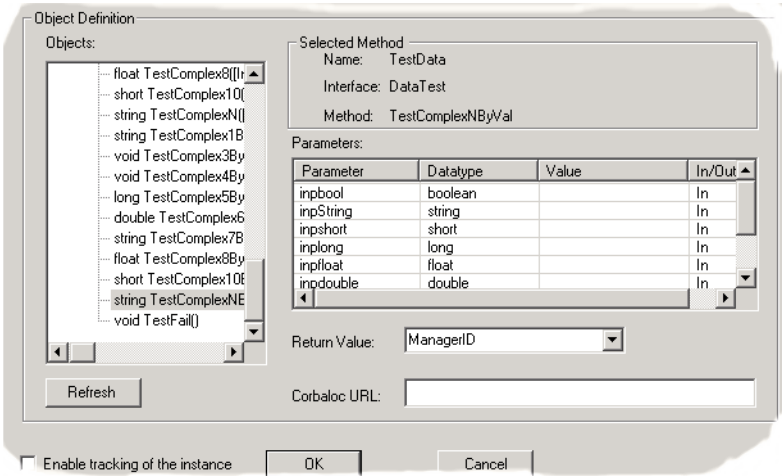

Figure 37-15. CORBA Object with its classes, methods, and parameters selected.
- 4 Double-click on the desired CORBA object. Click on the “+” next to the object to list all its classes. Double-click the “+” next to the classes to list all the properties and methods. Double-click the “+” next to the desired method to populate the **Parameters column** with the method’s parameters (refer to Figure 37-15, below).